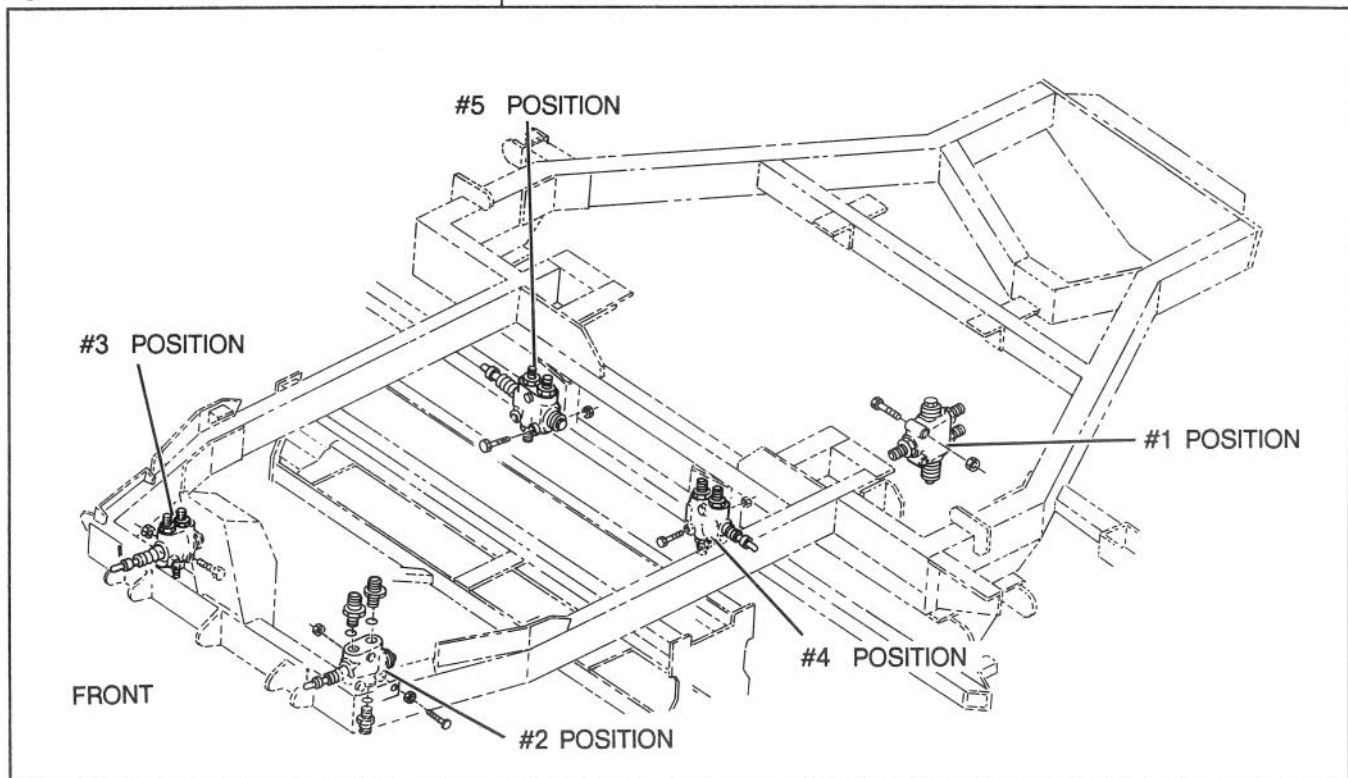

Figure 1
1. Tag and identify the hydraulic lines leading to the selector valve(s) being replaced. Disconnect and cap the lines and fittings with plastic plugs. Refer to Figure 1 for selector valve locations and descriptions.